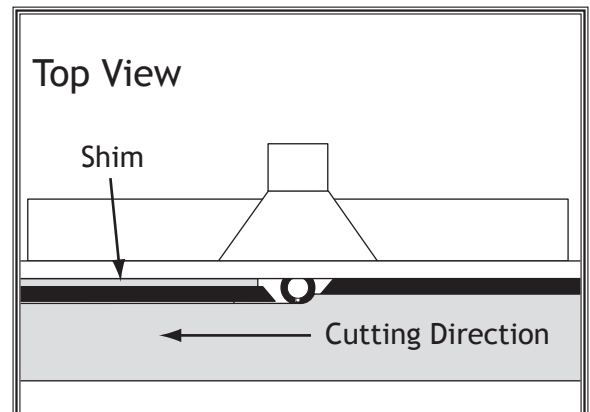

Figure 20. Edge jointing (guard removed for clarity).
7. Lock the fence assembly in place, tighten all knobs, connect the router to power, then perform the cut (see **Figure 20**).